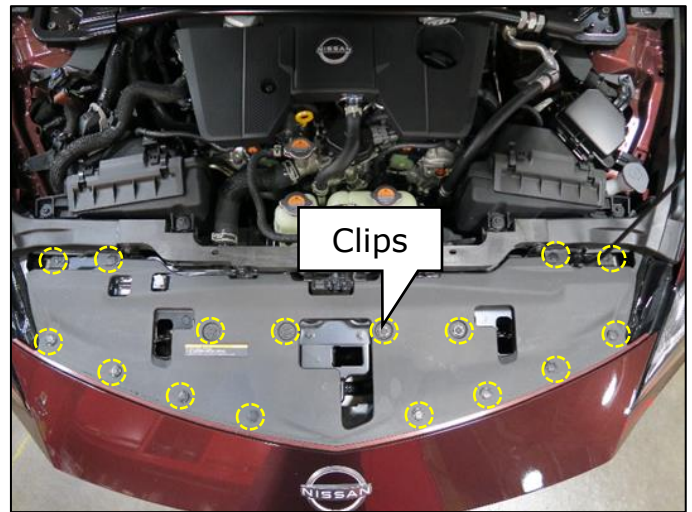

Figure 8
7. Remove the 16 clips from the upper radiator cover. (Figure 8)